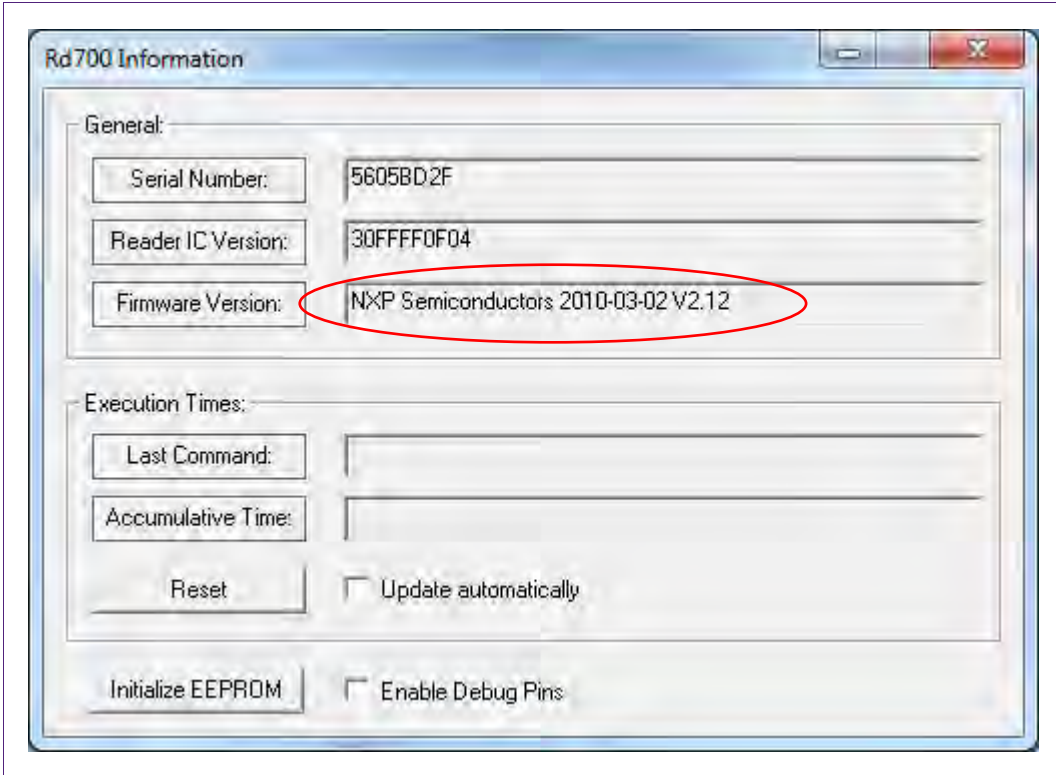

Fig. 9 Firmware Version
6) A window is coming up in which the current installed firmware version of the Pegoda reader is given as shown in Fig. 9.